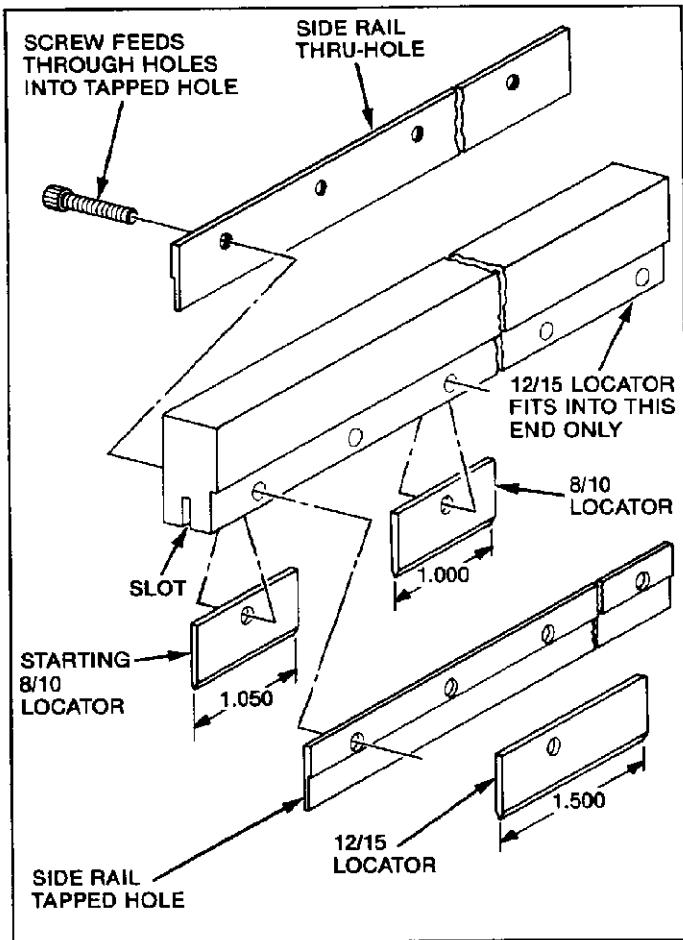
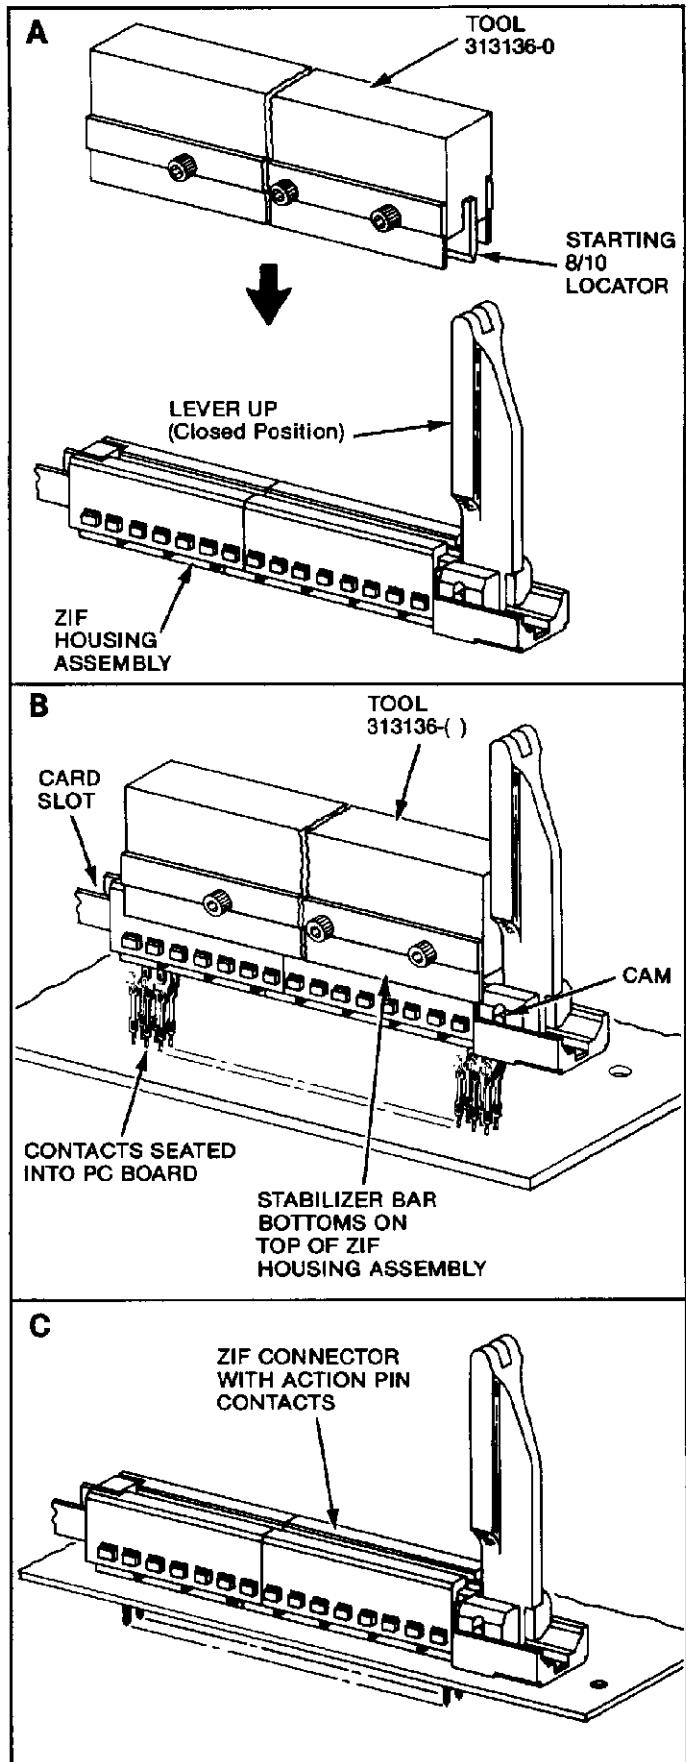

Fig. I-2
Fig. I-5
Each style has a different width as shown in Figure I-2. The locators are held in place by screws which pass through both the *side rail with the thru holes* and the stabilizer bar, and then thread into the *side rail with the tapped holes*, retaining the tool components onto the stabilizer bar.
The starting 8/10 locator is *always* located at the end of the stabilizing bar with the shorter distance from the center of the thru hole to the end of the bar (0.500 in., see Figure I-2). This locator *always* has a .050-in. overhang, a fact that is helpful to know not only when assembling a tool but for orienting that tool with the housing assembly during the insertion process (see Paragraphs I-3 and I-4 and Figure I-5).
2. The ZIF housing assembly should be in the CLOSED position before beginning the insertion process. For lever-actuated connectors, move the lever to the UP position as shown in View A of Figure I-5; for bellcrank actuated connectors, move the bellcrank IN.
3. With the housing assembly CLOSED, position the starting 8/10 locator at the end of the housing assembly that has the actuator (cam). See View B, Figure I-5.
5. Continue to fit the tool into the housing assembly until the stabilizer bar bottoms on top of the housing assembly. See View C, Figure I-5.
10. On particularly large size connectors, check to make sure both ends of the connector are fully bottomed. It may be necessary to move the ram off center and repeat step 9 to ensure the connector is bottomed in its entire length.(A properly seated housing assembly is shown in View C of Figure I-5.)